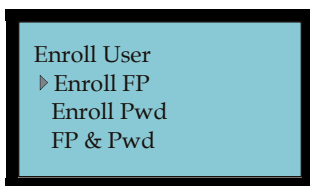

Figure 2-11 Enroll User Menu
3. Press **OK** to display the Enroll User menu and select Enroll FP (see **Figure 2-11**). The possible enrollment choices using the ▼ or ▲ buttons are; FP = fingerprint, Pwd = password only, and FP & Pwd = fingerprint & password).